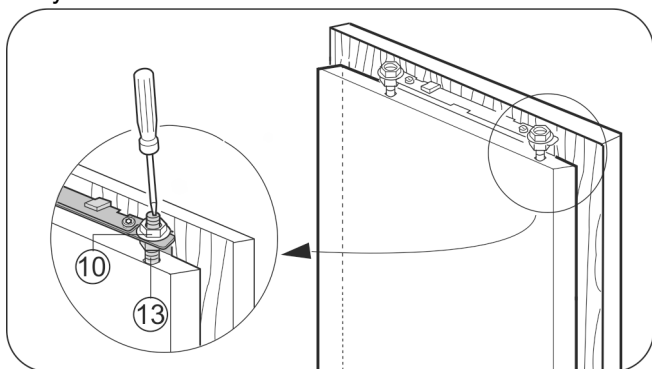

Fig. 34
- ▶ Tighten the locknuts Fig. 34 (10) with a hex wrench 13, while counter-holding the adjusting bolts Fig. 34 (13) with a screwdriver.